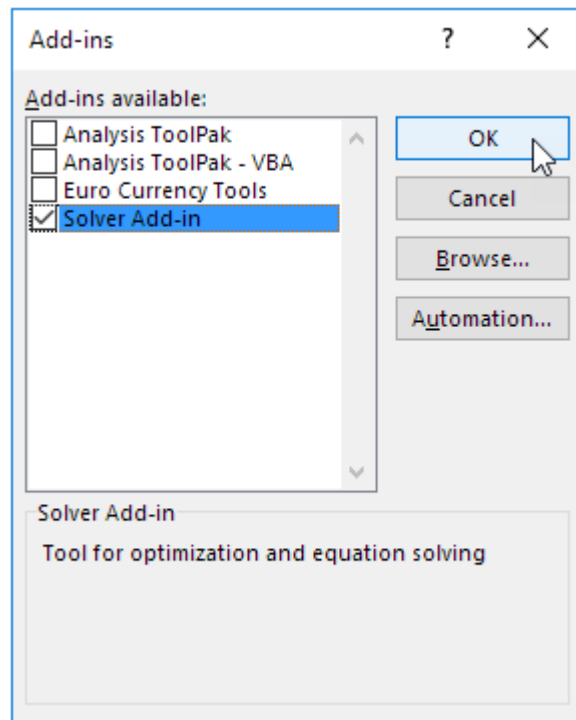

Figure 3. Select Solver Add-in in the Add-ins window
3. In the new window check the "Solver Add-in" and then click "OK" as shown in Figure 3.